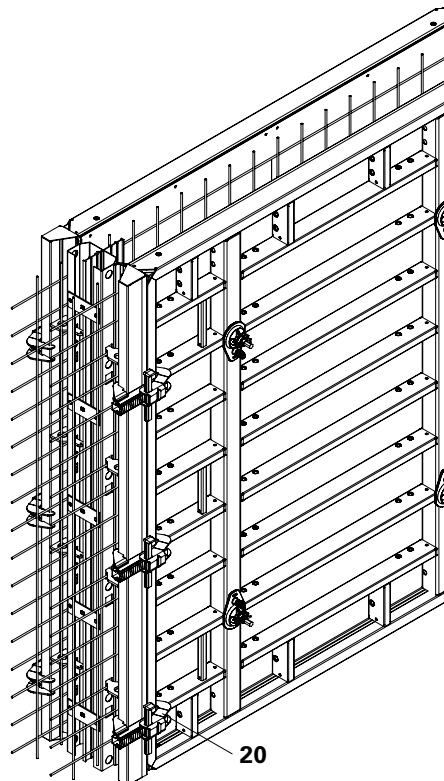

Fig. B10.14
2. Fix Outside Piece AT (55) to the primary formwork by means of the Alignment Coupler BFD (20).
4. Position Centre Piece MTF (57) and install water bar (57.1).
- (Fig. B10.14)